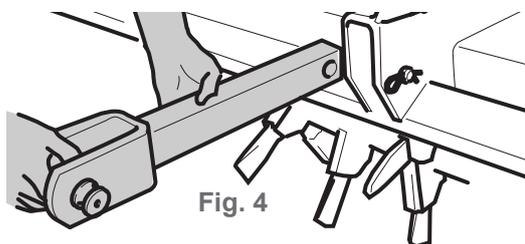

Fig. 4
- Insert the arm into its seat (fig. 4).